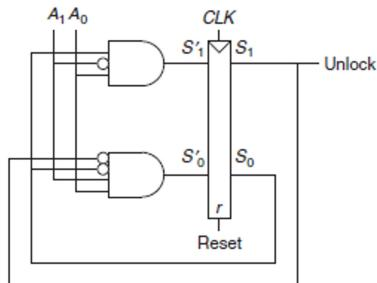

Figure 3.35 Circuit of found FSM for Example 3.9
**Table 3.17** Next state table derived from circuit in Figure 3.35
Table 3.18 Output table derived from circuit in Figure 3.35
Table 3.17 Next state table derived from circuit in Figure 3.35